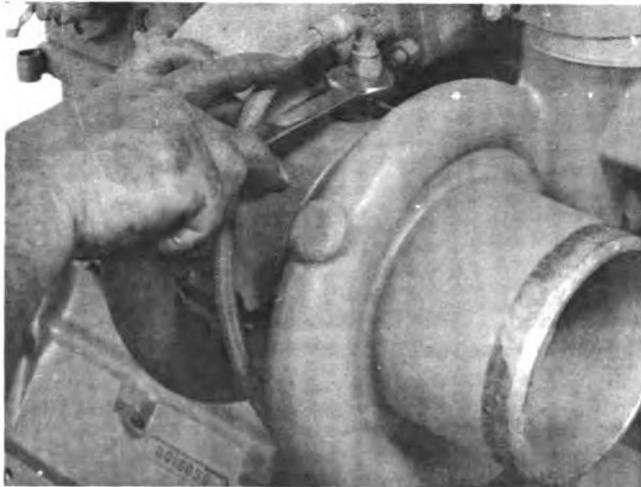

Fig. 0-9. Remove The Turbocharger Oil Supply Line.
2. Remove the oil drain line from the turbocharger and cylinder block. Remove the oil supply line from the turbocharger and the oil cooler, Fig. 0-9.